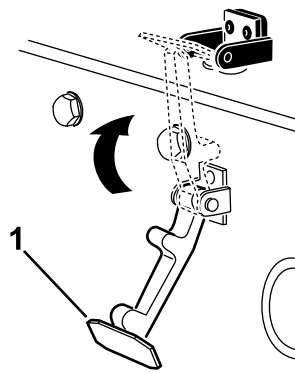

Figure 19
6. Hook the latch onto the hood-latch bracket (Figure 19).